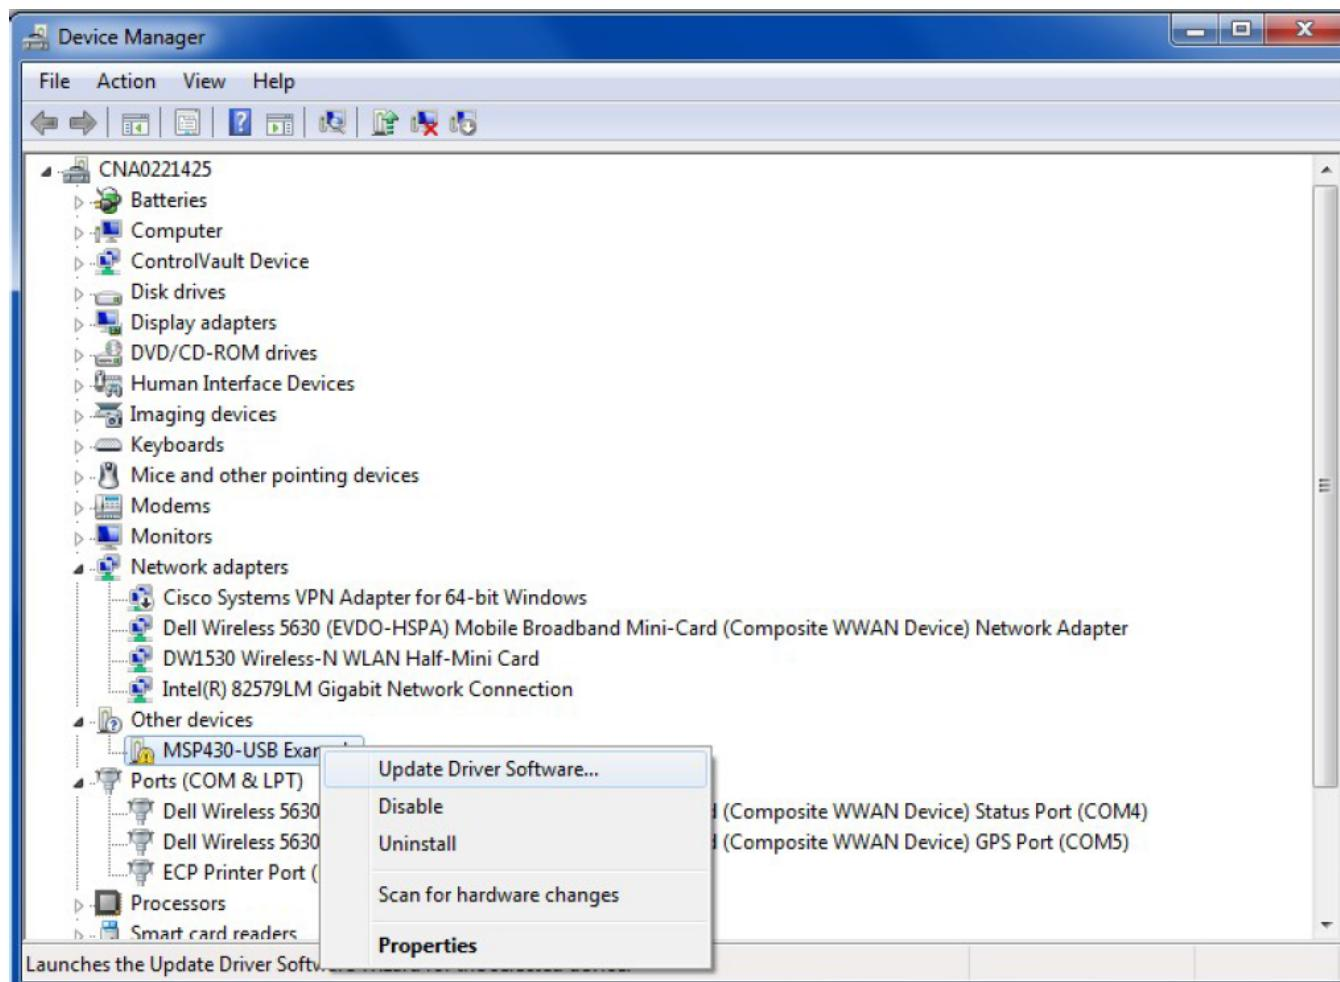

Figure 15. USB Driver Installation - Screen 1 (Windows 7 OS only)
2. Windows XP OS starts up the *New Hardware Wizard* to enable the user to install the USB driver for the new hardware. The Windows 7 OS attempts to find the driver for the *new hardware found* automatically and if the driver is not found, there is no pop-up message to indicate that the driver installation failed. In the Windows 7 OS, click on *Device Manager*, right click on *MSP430-USB* example under *Other devices* and click on *Update Driver Software* as shown in Figure 15. This step is not required for the Windows XP OS.